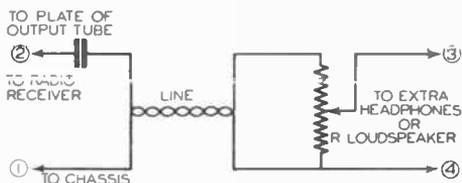

FIG. 1. Circuit for connecting a high-impedance reproducing unit to any radio receiver.
**FIG. 1.** With this RCA phonograph oscillator, you can convert practically any radio receiver into a small public address system for use either with a microphone or record player. You can secure it at the wholesale price from any RCA distributor if you identify yourself as a serviceman; some mail order radio supply houses also sell it or will procure it for you.
*How to Connect High-Impedance Devices.* A high-impedance reproducing device should always be connected between the chassis and the plate of an output tube, using the circuit shown in Fig. 1. The audio output voltage of the receiver is applied to potentiometer *R* through D.C. blocking condenser *C*, and any desired portion of this output voltage can be transferred to the extra headphones
If triode tubes are used in the output stage, the load placed on them by potentiometer  $R$  in Fig. 1 will ordinarily be sufficient to prevent a dangerous rise in voltage when the receiver loudspeaker is silenced by opening its voice coil. With pentode output tubes, on the other hand, some additional loading is required; the circuit ar-